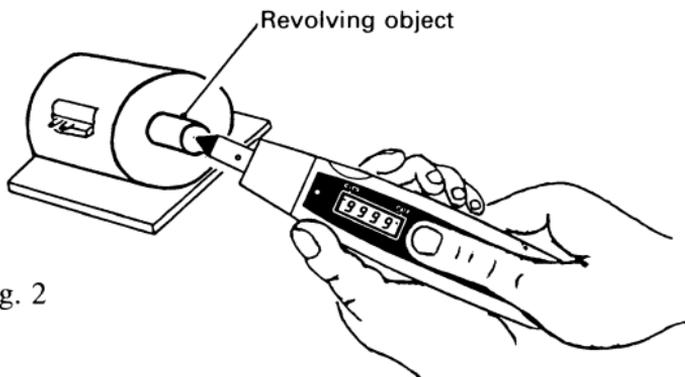

Fig. 2
- 1-3 Apply the tip (contact rubber) of the unit to the center of the axis of revolving target at a right angle against the contact surface as shown in Fig. 2 and depress the measure switch, and measured value is shown. To obtain actual measured value, multiply indicated value with the multiplication factor of the measuring range switch.